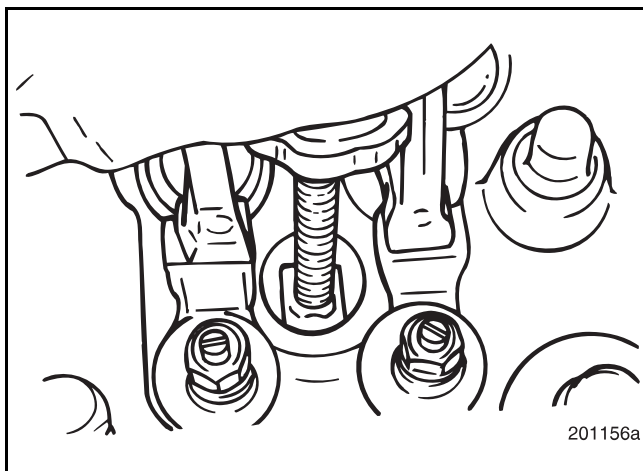

Figure 6-64 — Nozzle Holder Installation
5. After making sure that the nozzle holder ball is properly aligned with the alignment socket in the cylinder head, push downward on the handle of the installation tool driving the nozzle holder into position. Refer to Figure 6-64.